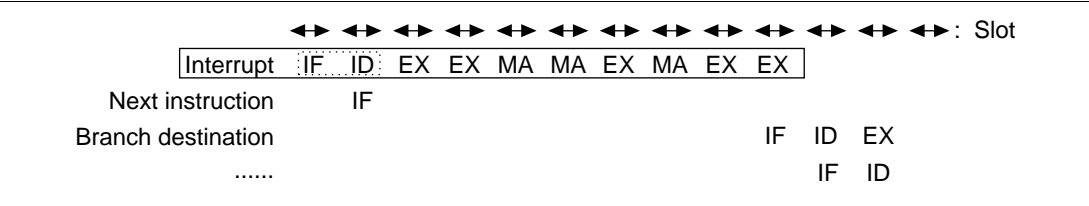

Figure 7.95 Interrupt Exception Processing Pipeline
Interrupt Exception Processing (Common): The interrupt is received during the ID stage of the instruction and everything after the ID stage is replaced by the interrupt exception processing sequence. The pipeline has ten stages: IF, ID, EX, EX, MA, MA, EX, MA, EX, and EX (figure 7.95). Interrupt exception processing is not a delayed branch. In interrupt exception processing, an overrun fetch (IF) occurs. In branch destination instructions, the IF starts from the slot that has the final EX in the interrupt exception processing.